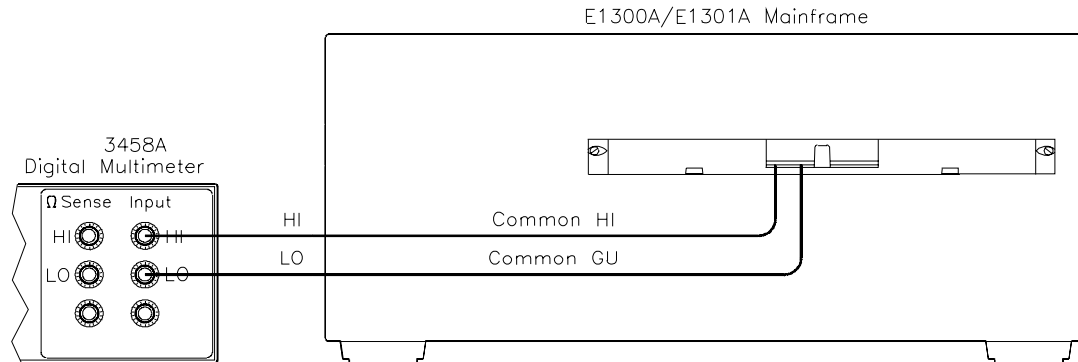

Figure 2-11. HI to GU Isolation Connections
1. Make hardware connections as shown in Figure 2-11